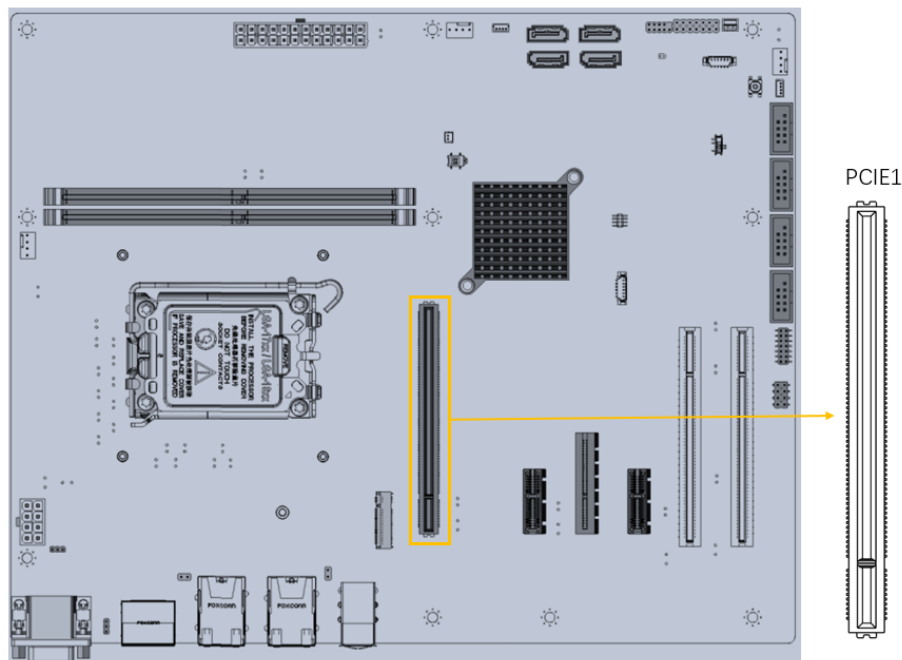

Figure 3-31: PCIe x8 Slot Locations
- CN Location:** See Figure 3-31